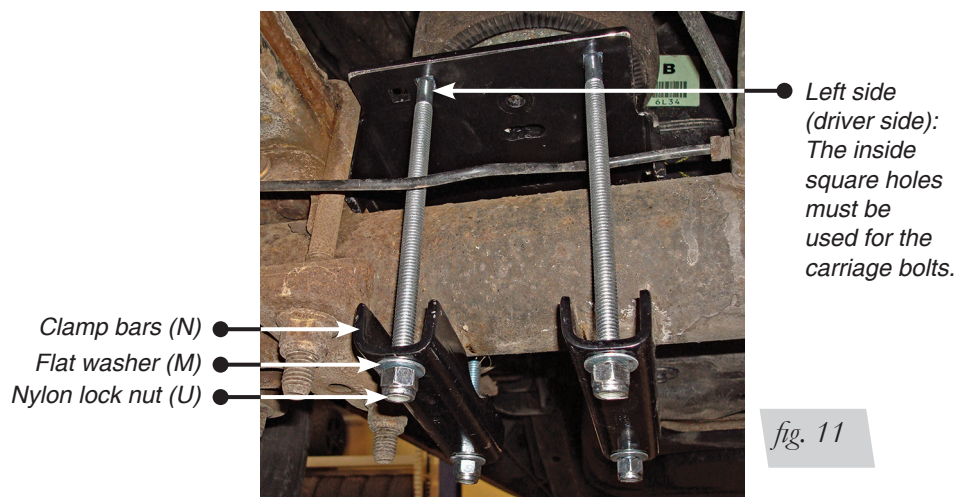

fig. 11
The inside square holes must be used for the carriage bolts (fig. 11).
3. Install the lower clamp bars (N) over the carriage bolts installed previously and cap with flat washers (M) and nylon lock nuts (U) (fig. 11). Torque the lower nuts evenly to 10ft. lbs.